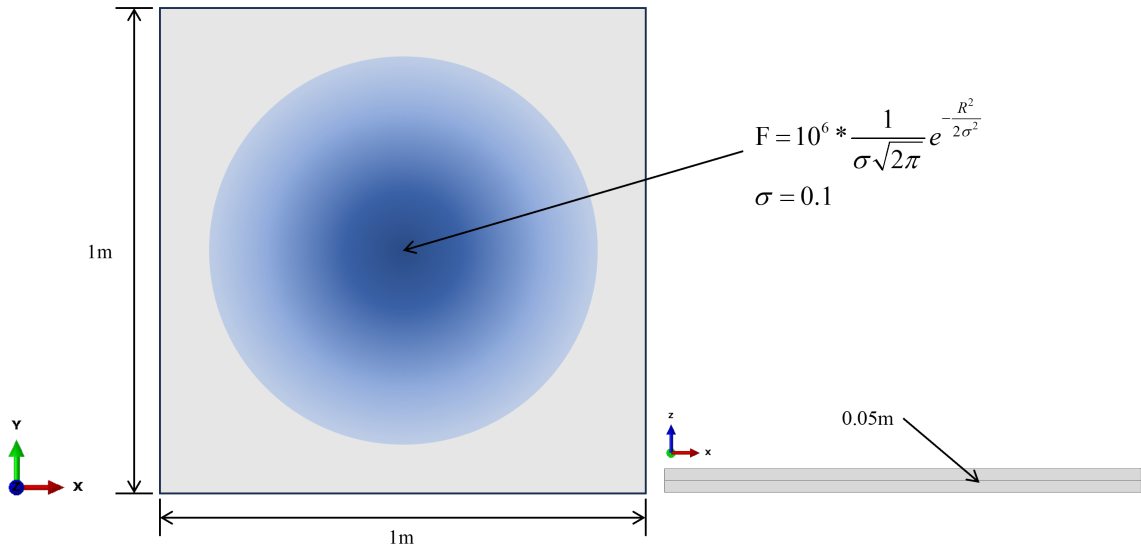

Fig. 1
2. **Problem 2** (50%) Consider a static linear elasticity isotropic plate problem on a thin plate as shown in Fig. 1. The problem involves a square thin plate with a side length of 1 m and a thickness of 0.05 m.